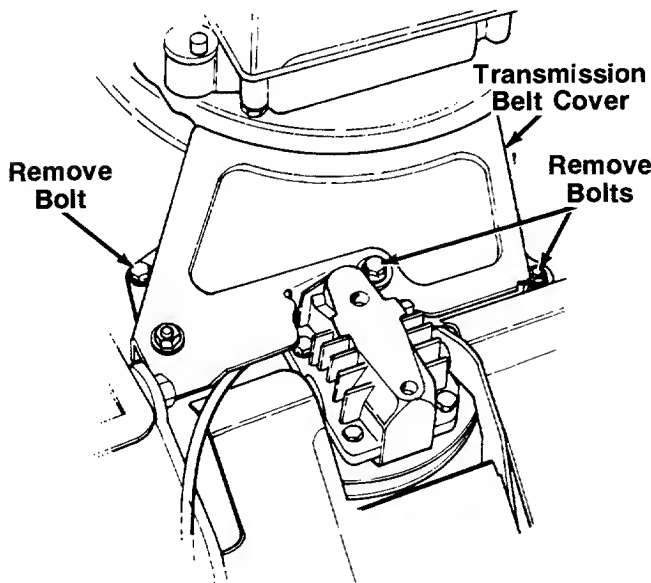

FIGURE 26.
3. Remove the transmission belt cover by removing three bolts. See figure 26.